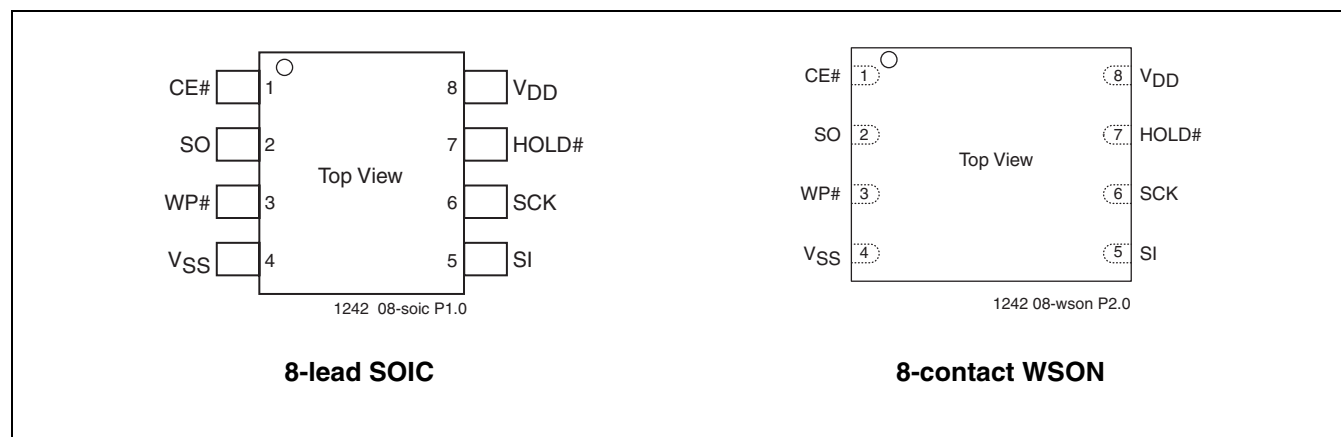

FIGURE 2: Pin Assignments
The SST25LF020A devices are offered in an 8-lead SOIC 150 mil body width (SA) package, and in an 8-contact WSON package. See Figure 2 for the pin assignments.